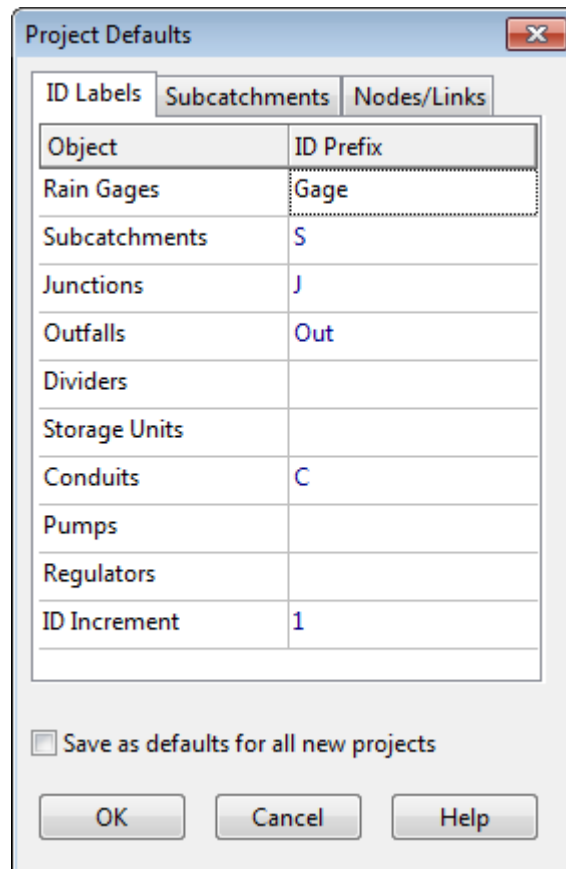

Figure 2-2 Default ID labeling for tutorial example
- On the ID Labels page of the dialog, set the ID Prefixes as shown in Figure 2-2. This will make SWMM automatically label new objects with consecutive numbers following the designated prefix.